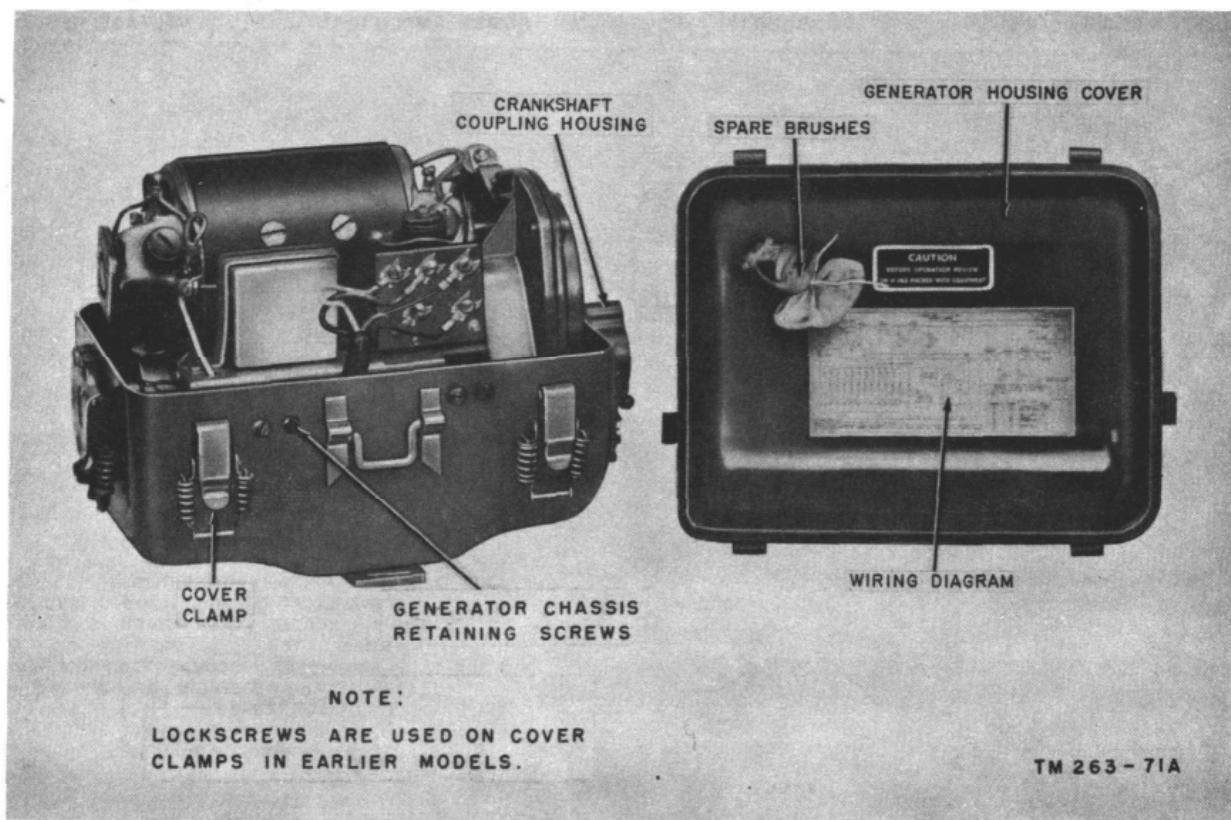
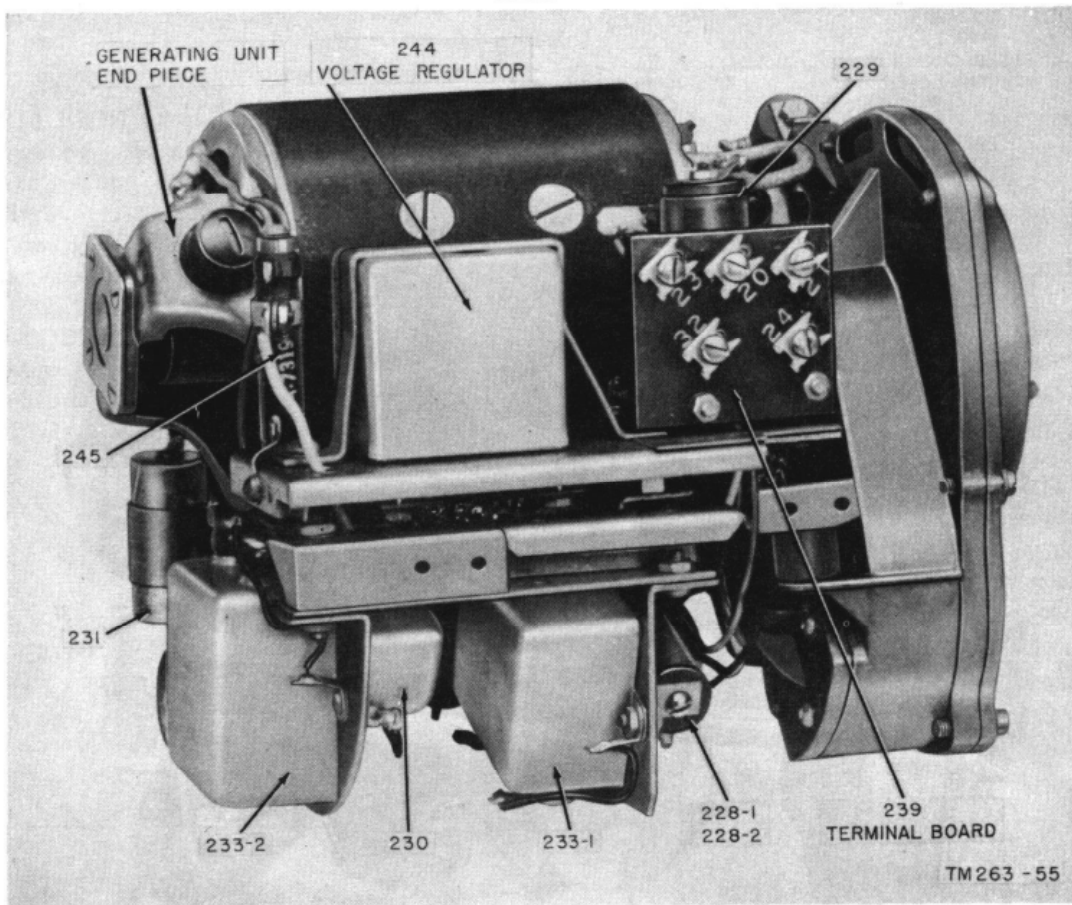

Figure 126. Generator GN-58-(*), top cover removed.
Figure 128. Generator GN-58-A, parts location (front).
ing the cover clamps, the top of the housing should come off easily when lifted straight up. Figure 126 shows Generator GN-58-A with the top cover removed. Next, loosen the screw which holds the terminal strip insulating cover in front of panel board 239 (fig. 128). This will expose the terminal board, and all voltage measurements can be made at full or no load,
h. Remove the terminal strip insulating cover from in front of panel board 239, exposing the spade lug connections on the board (fig. 126).
j. Remove the chassis retaining screws around the top of the lower half of the housing (fig. 126).